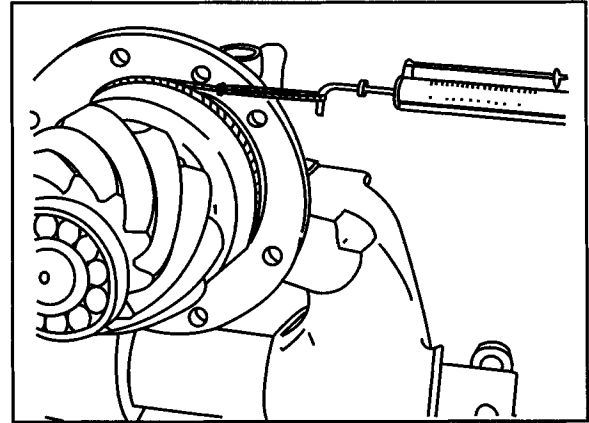

Figure 20
12. **Method A:** To measure torque-to-rotate with the spring scale, clamp the end yoke horizontally in a soft-jawed vise. Attach one end of the cord to a bolt hole in the pinion cage, wrap cord around pinion cage and attach the outer end of the cord to the spring scale. Rotate pinion cage by pulling scale. Read scale during fourth revolution. Scale reading must be between 3-10 Lbs (1.4-4.5 Kg). (See Figure 20)